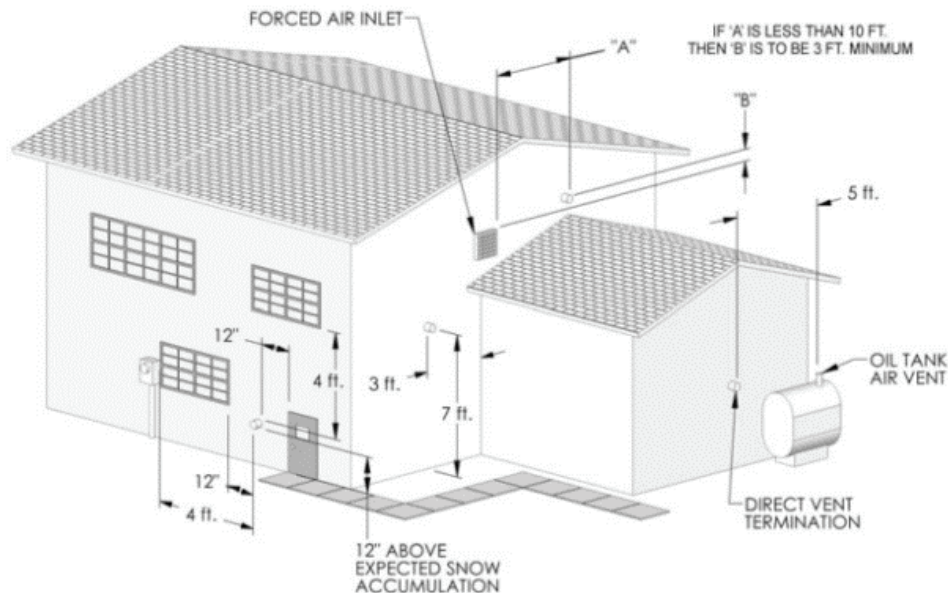

Figure 3.3: Exit Terminal Location for Mechanical Draft and Direct-Vent Venting Systems
- a. See Figure 3.3 for an illustration of clearances for location of exit terminals of direct-vent venting systems.